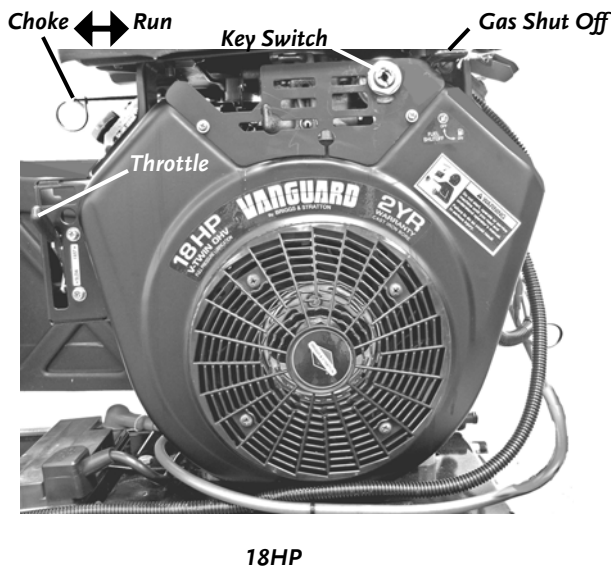

Figure 8
3. Turn the Gas Shut-Off valve to the OPEN position (*Figure 8*).
1. Pull the Choke control (**Figure 8** on page 23) out to the CHOKE position (leave in the RUN position if the engine is already warm).
2. Move the Throttle to the FAST or RUN position (**Figure 8** on page 23).
3. Turn the Key Switch to ON (**Figure 8** on page 23) then to the START position until the engine starts, then release. The key will snap back to the RUN position and the engine will continue to run.